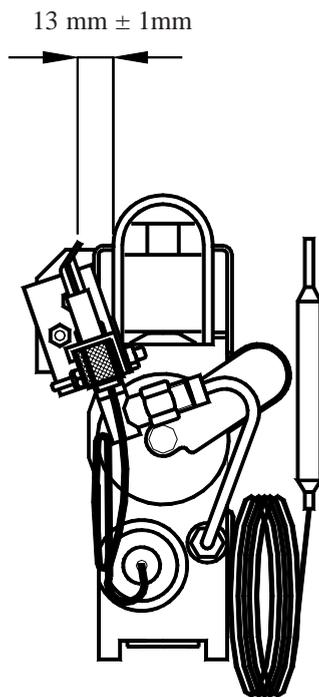

Fig. 6
- 7.3.6 Refitment or replacement is in reverse order, ensuring that the thermocouple connection at the Multifunctional Control is not overtightened (finger tight + ¼ turn only), and the relationship between the Pilot Assembly and the Main Burner is as shown in fig. 6.
- 7.4.5 Refitment or replacement is in reverse order, ensuring that the Main Burner is screwed in as close as possible to the injector shoulder, and the relationship between the Pilot Assembly and the Main Burner is as shown in fig. 6.